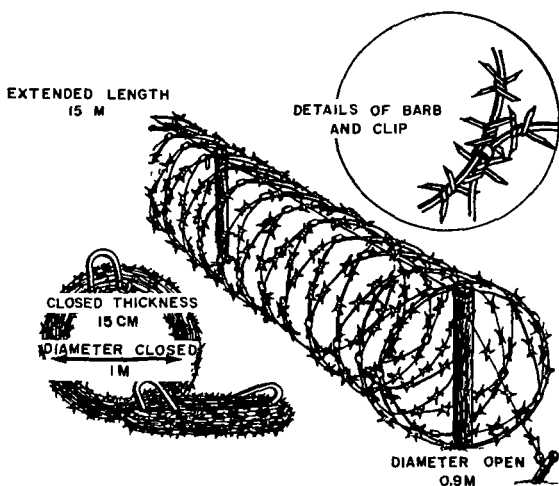

Figure 144. Standard barbed wire concertina.
a. *Concertina*. The standard barbed wire concertina (fig. 144) is formed by coils of barbed wire clipped together at intervals so that when the concertina is opened it is cylindrically shaped, 15 meters long and 0.9 meters in diameter. Nor-